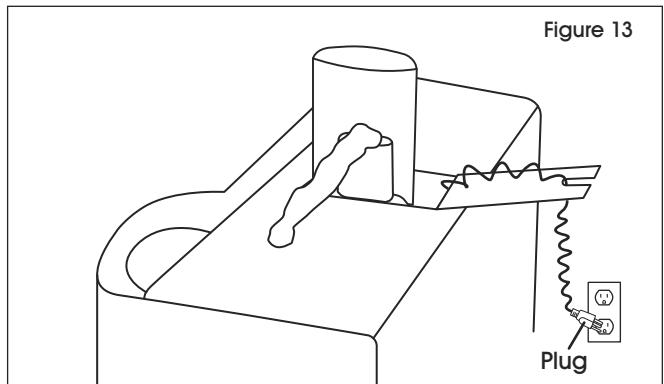

Figure 13
5. Plug truck into electrical outlet to charge. (See Figure 13)